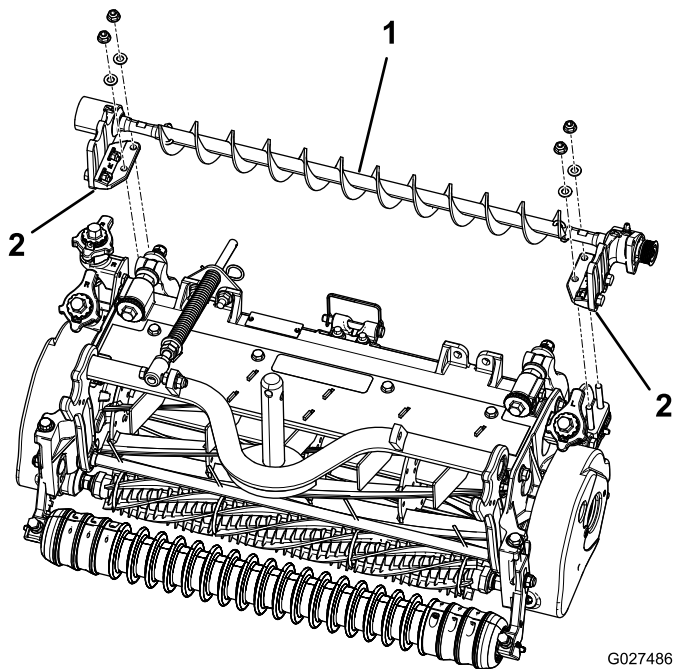

Figure 6
10. Position the left- or right-hand roller-brush-assembly mounting brackets onto the roller-bracket bolts (Figure 6).